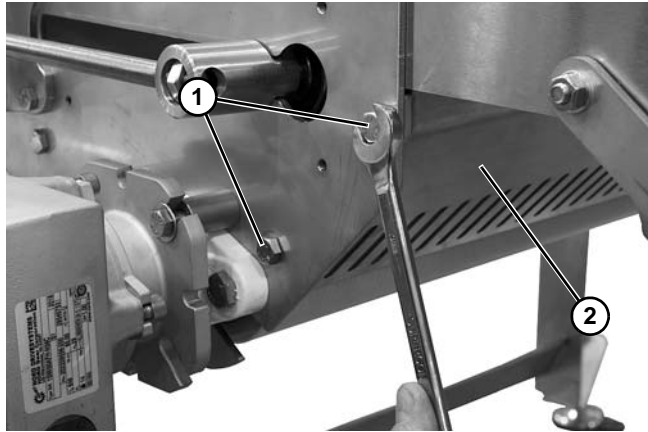

Figure 95
5. Remove two bolts (**Figure 95, item 1**) from each side of the center drive. Remove the stationary guard assembly (**Figure 95, item 2**).